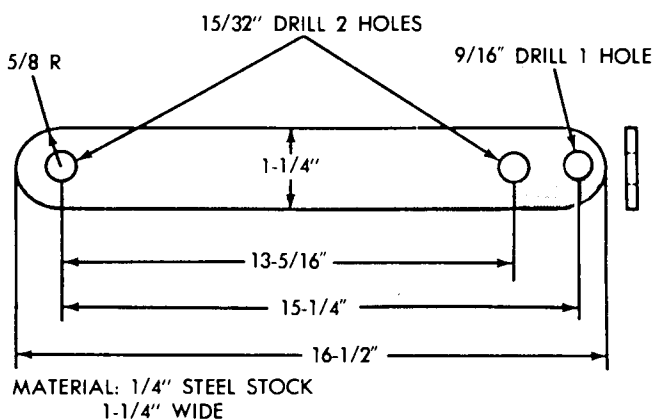

Fig. 6—Hub Seal Cup Retaining Strap
(1) Install a dipstick bore plug and plug oil cooler line fitting.
(2) With rotary motion, install converter hub seal cup over input shaft, and through the converter hub seal until the cup bottoms against the pump gear lugs. Secure with cup retainer strap (Fig. 6) using starter upper hole and opposite bracket hole.